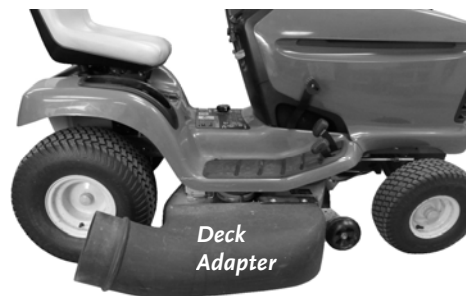

Figure 50
1. Install the Deck Adapter onto your Lawn Tractor (**Figure 50**).